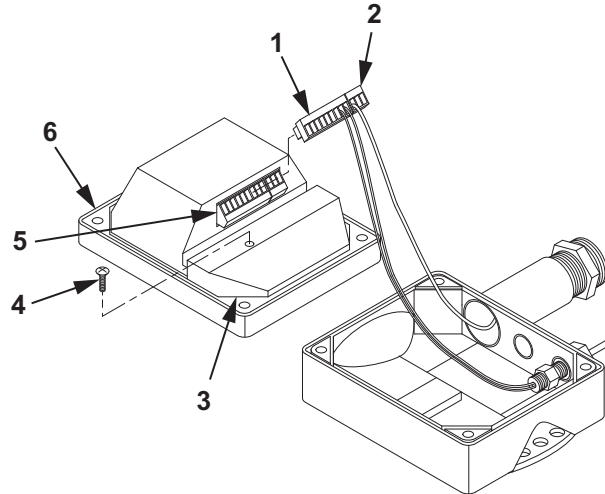

Figure 2. Tank Volume Meter Monitor Cable Connectors.
3. Disconnect cable connectors (Figure 2, Item 1 and 2) from connector (Figure 2, Item 5).
4. Remove screw (Figure 2, Item 4) from circuit board cover (Figure 2, Item 3).
5. Remove circuit board cover (Figure 2, Item 3) from volume meter (Figure 2, Item 6).